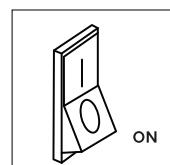

Figure 9
**STEP 9:** Turn ON power. See Figure 9.